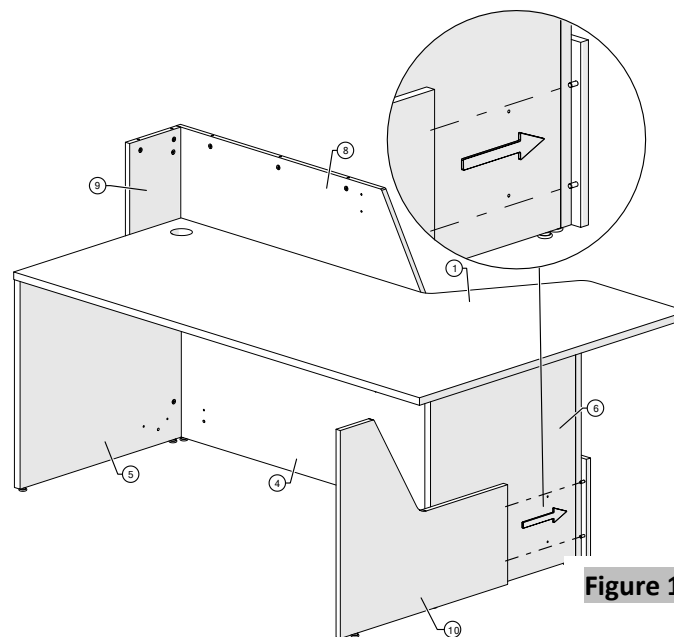

Figure 16
19. Connect the angled reception countertop gable to the angled reception countertop modesty and press tightly together by inserting wooden dowels into the holes of the angled reception countertop gable (Figure 16).